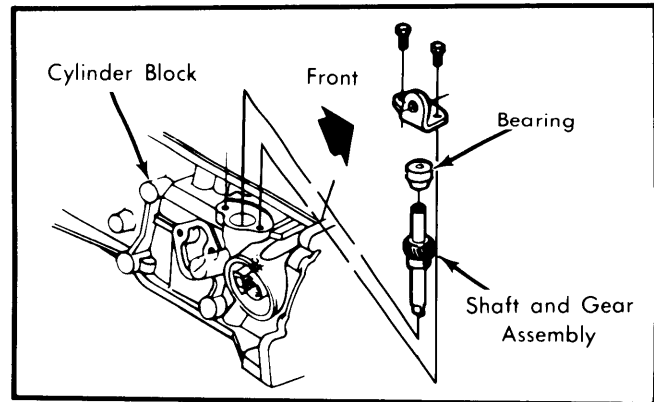

Fig. 7 Removing Oil Pump Drive Shaft
2) Remove alternator, lower alternator bracket and front engine mount bracket assembly. Remove oil pump drive shaft and gear assembly. Remove front pulley hub and timing gear cover. See Fig. 7.